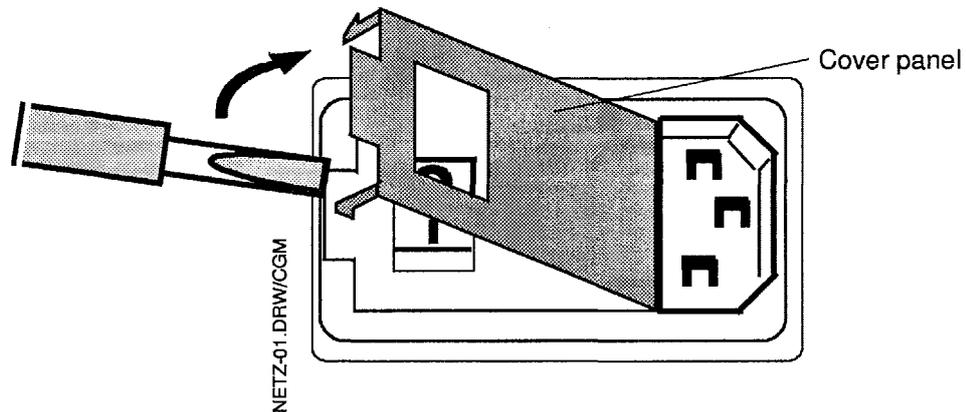

Fig. 8-1 Opening the fuse cover panel
1. Open the panel over the fuse with a small screwdriver (see Fig. 8-1).